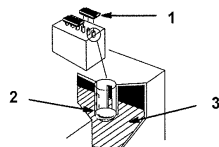

Figure 23
1. Open covers to see into the cells. The electrolyte must be up to the lower part of the tube (Fig. 23).
**Important** Do not allow the electrolyte to get below the plates. (Fig. 23).
2. Lift off the filler caps (Fig. 23).
3. Slowly pour distilled water into each battery cell until the level is up to the lower part of the tube (Fig. 23).